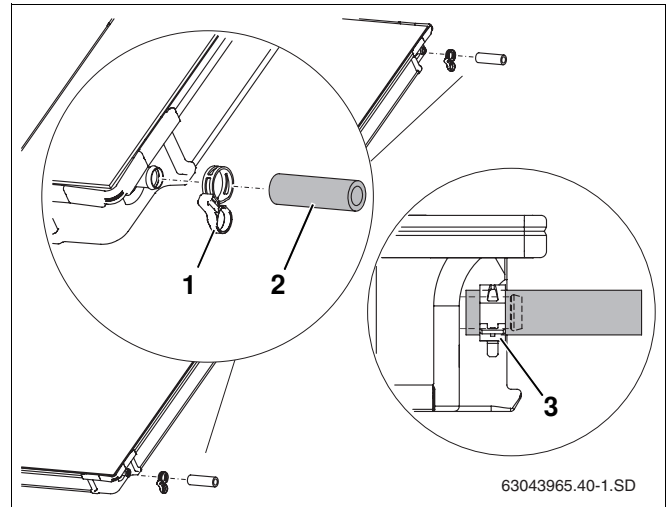

Fig. 39 Pre-assembling the connection set on the second collector
- Push 95 mm solar hoses (Fig. 39, **Item 2**) onto the right-hand connections on the second and any subsequent collector.
- Push hose clips (Fig. 39, **Item 1**) over the solar hose (the second clip will enable the other collector to be connected later).
- Once the hose clip is sitting correctly, pull the quick release ring to secure the connection (Fig. 39, **Item 3**).